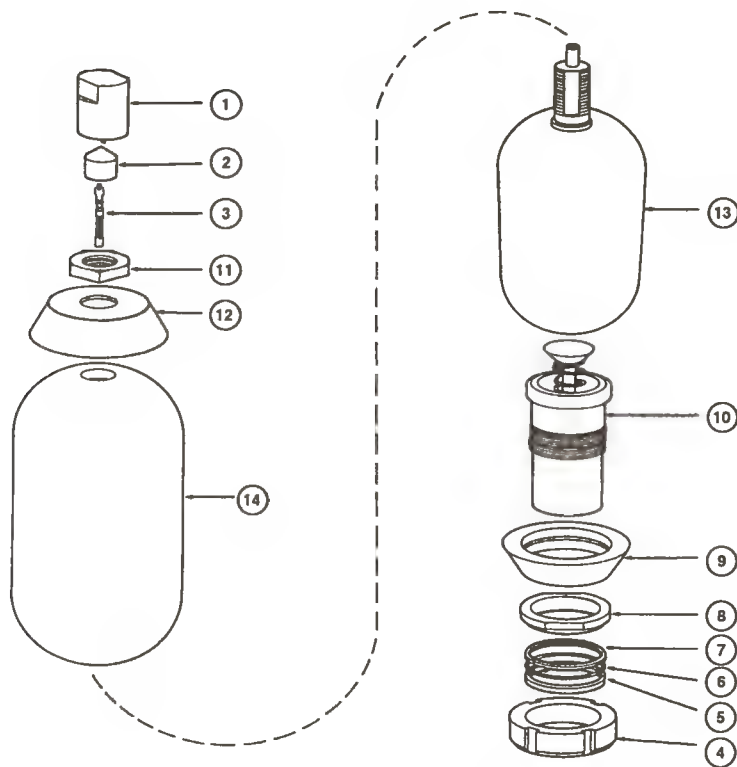

Figure 4. Exploded View
Disassemble the accumulator by item sequence number as shown in Figure 4. Place accumulator parts on a clean surface for inspection.
1. Discard rubber seals and obtain a new anti-extrusion ring kit. Refer to Figure 4 for the kit part number.
2. Visually inspect accumulator bladder (13) for holes, cracks, charring, and distortion. Replace the bladder if any of the preceding conditions are evident. If the bladder seems to be in good condition, perform step 3.
a. Screw valve core (3) into bladder.
4. Inspect oil valve (10) for damaged threads, burrs, and rust spots. Remove minor burrs with an India stone. Check the plunger and spring within the oil valve for proper function. Replace the oil valve if damaged threads, rust spots, or improper plunger/spring action are noted.
5. Inspect both shell (14) openings for burrs. Remove minor burrs with an India stone. Use a flashlight to inspect inside of shell. Check for cracks, scratches, or burrs. If condition of shell is questionable, replace the accumulator.
Assemble the accumulator in reverse item number sequence as shown in Figure 4. Perform the following steps: